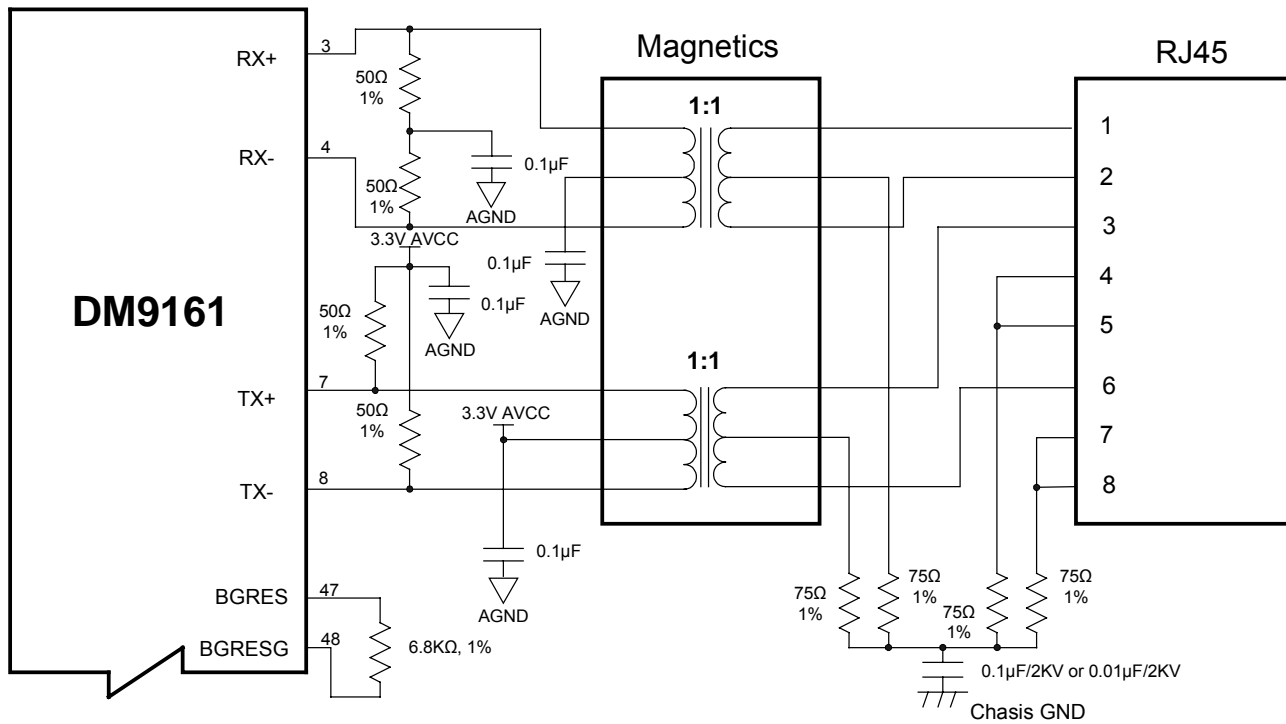

Figure 1
- Any terminated pins of the RJ-45 connector (pins 4,5,7 and 8, see Figure 1) and the magnetic (see Figure 1) should be tied as closely as possible to the chassis ground through a resistor divider network 75 Ω resistors (no more than 2mm to the magnetic) and a 0.01 μ F/2KV bypass capacitor.